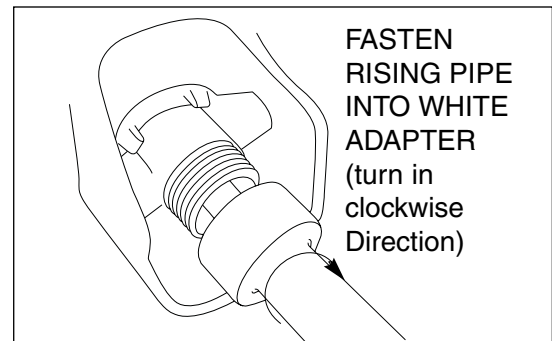

Figure 2
1. Screw the YELLOW RISING PIPE into the YELLOW ADAPTER. Make sure there is an o-ring inside the RISING PIPE. (See *Figure 2*)